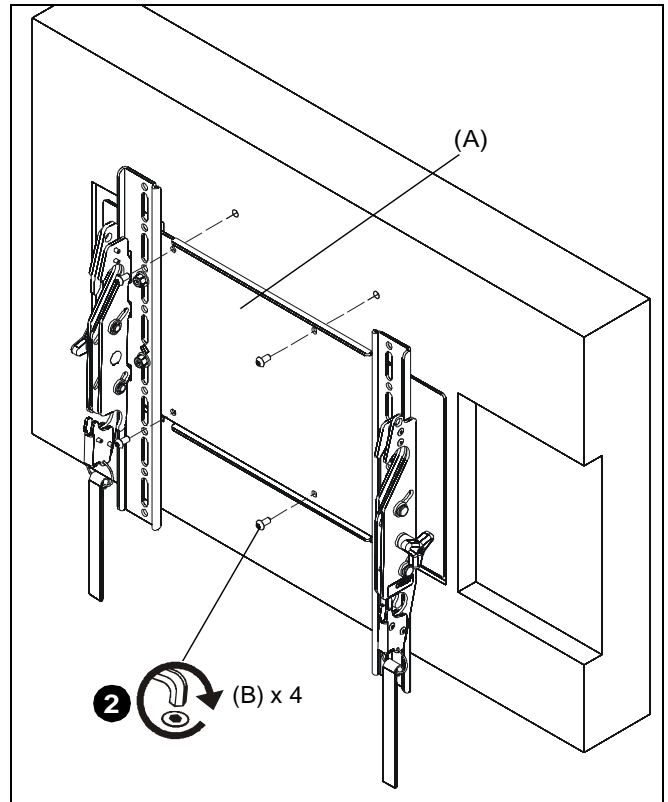

Figure 2
2. Attach interface bracket (A) to back of display using four M6 x 12mm Phillips cap head screws (B). (See Figure 2)